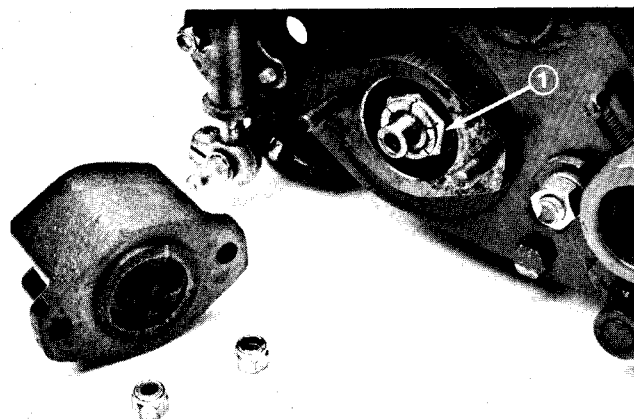

Figure 27
2. Remove counterbalance end cap from left hand side of cutting unit (Fig. 27). Remove large bearing adjustment nut from left hand end of reel shaft (Fig. 27) and special spline nut from opposite end of reel shaft.